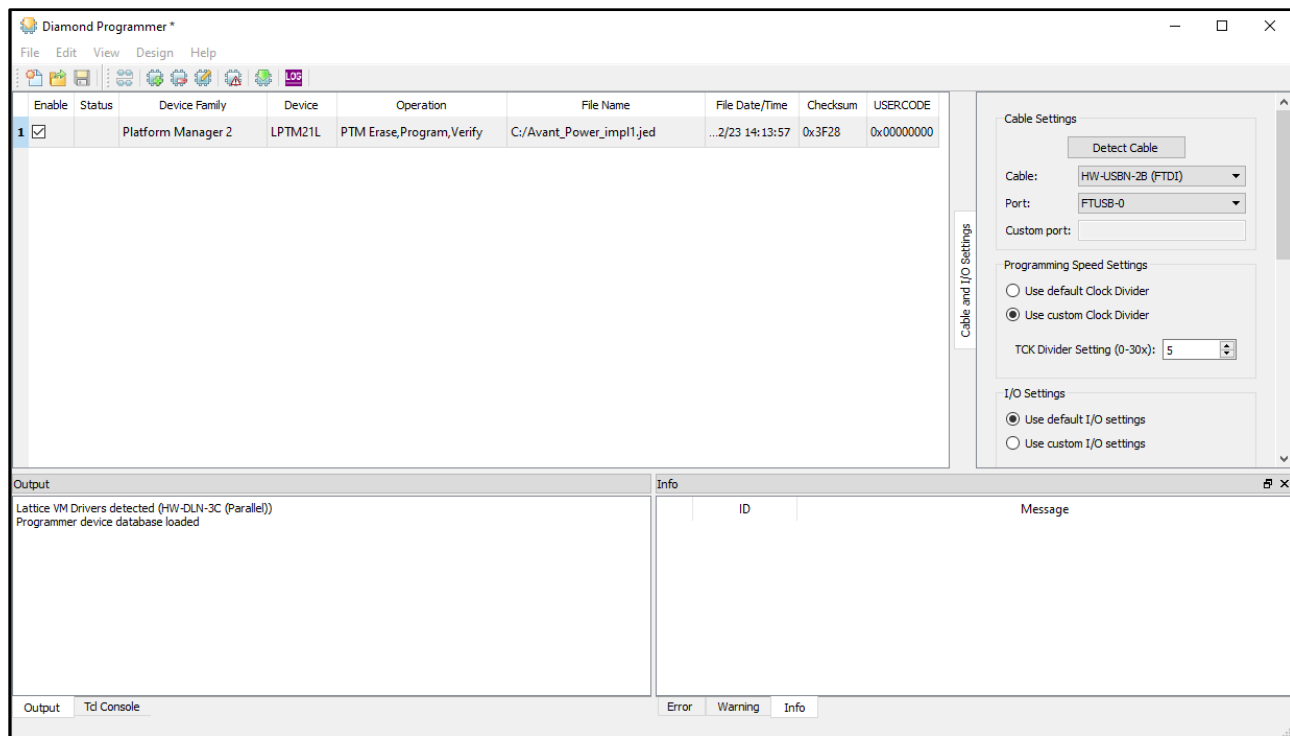

Figure 4.1. Lattice Radiant Programmer
4. The Lattice Diamond programmer interface opens as shown in Figure 4.1.